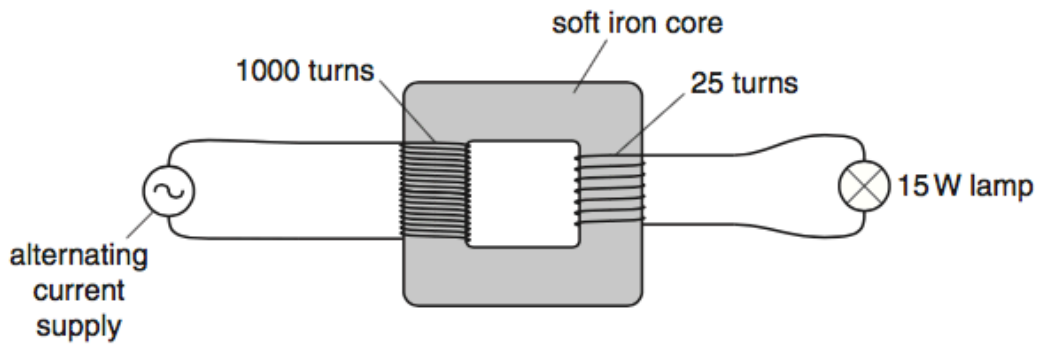

Fig. 3.3
- (c) Fig. 3.3 shows a transformer circuit.